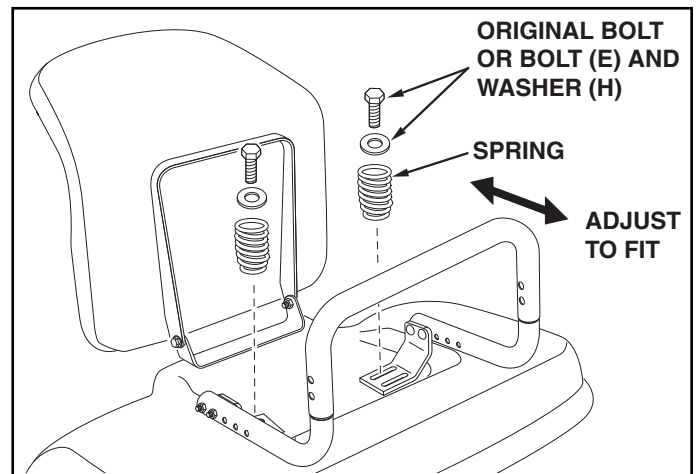

FIGURE 8
STEP 8: (SEE FIGURE 8 AND 9)
- If the base leg tubes rub against the fender, attach the adhesive pads (K) to the bottom of the base leg tubes.
- Attach the seat springs and the base brackets to the rear fender using the spring bolts that you removed. On GT tractors, if the spring bolts were less than 1" long, use the 5/16" x 1" bolts (E) and 5/16" washers (H) supplied with the Sun Shade. Align the base leg tubes on the rear fender. Use a 1/2" socket (GT) or a 9/16" socket (LT) to tighten the seat spring bolts **using moderate force. Do not overtighten.** Next, **tighten** the bolts fastening the base leg tubes to the base brackets.